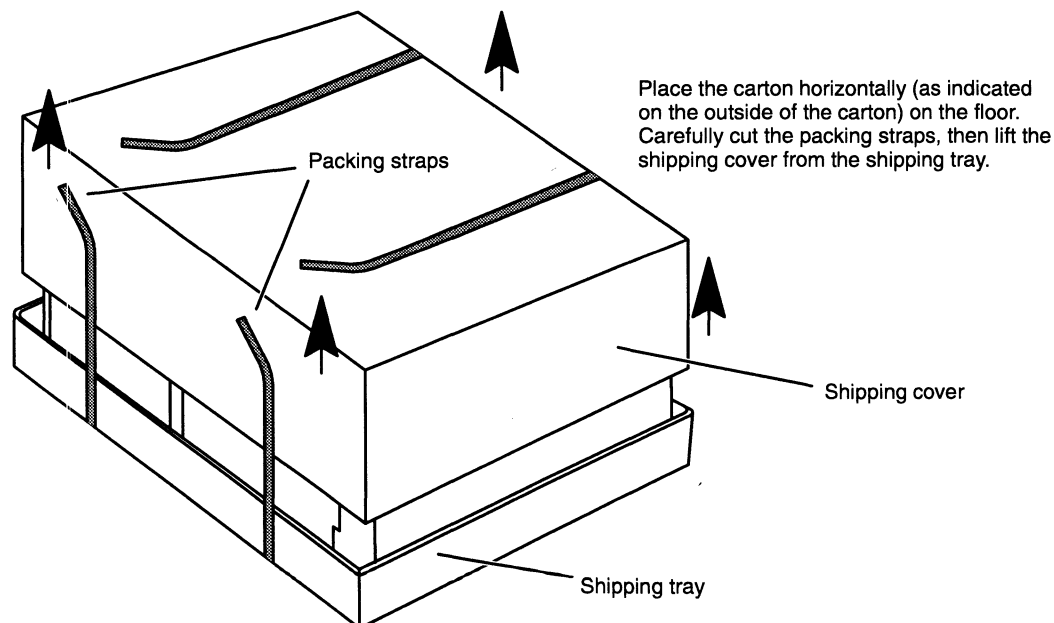

Figure 1–4 Removing the Shipping Cover
2. Refer to Figures 1–4 through 1–7 to unpack the computer unit.
NOTE: The computer unit can weigh over 70 pounds. Unpacking the unit involves a vertical lift of approximately six inches, and requires control of the entire unit while it balances at angles approaching forty degrees. While the instructions in Figures 1–4 through 1–7 should enable you to unpack the unit alone, you might want the help of another person.
Verify that the voltage setting for your computer unit power supply is correct for your site. The label shown in Figure 1–8 specifies whether the power supply is set for 100–120 or 200–240 volt operation.